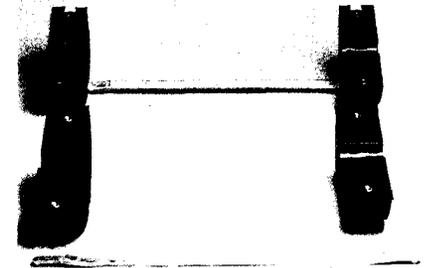

Figure 23 — Completed Preparation of End Plate Halves
9.04 Figure 23 shows the completed LOCK-Tape application on the end plates.